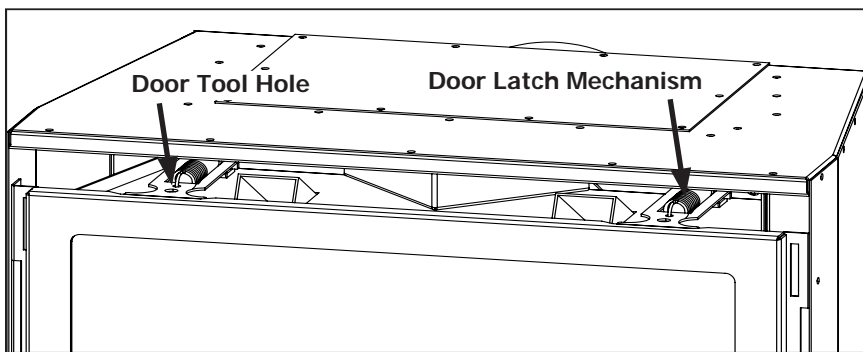
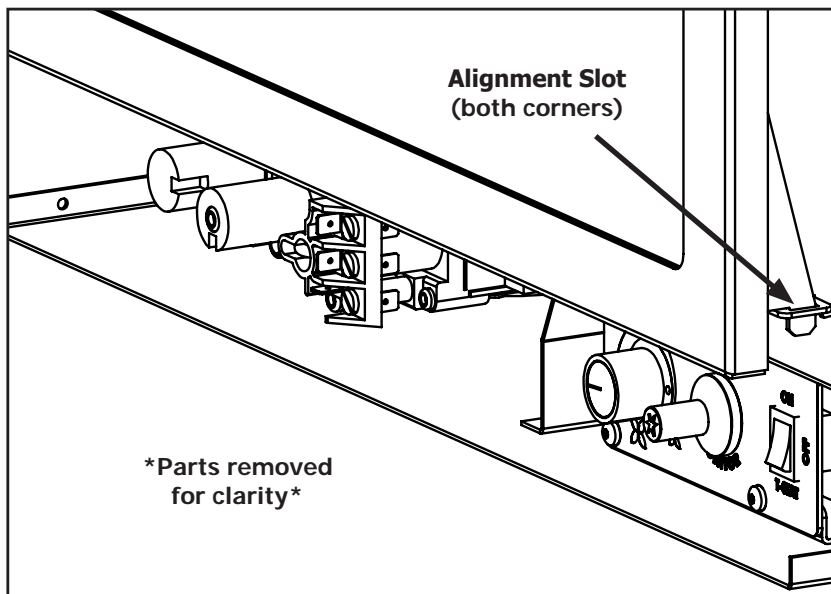

Figure 8. Top latches for glass door
Figure 9. Bottom Alignment Slots for glass door.
In order to install the coal set, and for regular cleaning, the glass door must be removed. There are two (2) door latch mechanisms on top the glass door as shown in Figure 8. Each latch has a hole at the front to use the door tool, supplied with the unit, to pull the mechanisms straight out and up. When the top latches are unhooked, lean the door forward and then lift it up out of the alignment slots at the bottom corners of the firebox, shown in Figure 9.